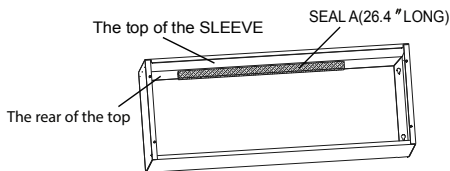

Fig. 5
- Attach the SEAL A and SEAL B to the SLEEVE at proper position as shown below. (See Fig.5, Fig.6 and Fig.7)